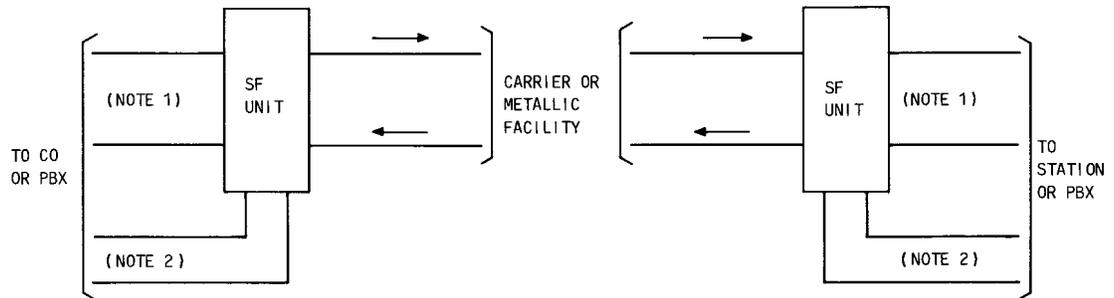

Fig. 6-30—Typical SF Circuit
6.51 The single frequency (SF) signaling systems convert dc signals from the CO or station end of a circuit to 2600-Hz tone. The 2600-Hz tone (in some cases 2400-Hz tone is used) is passed over carrier or metallic line facilities to a distant SF unit. At the distant end, the SF unit converts the 2600-Hz tone back to dc signals (Fig. 6-30). Basically, two families of SF units are being used; E-type and the newer F-type. Due to the structure of SF signaling systems, the format used here will differ somewhat from the format used for the other special service components covered in this part. Operation and testing information will still be covered.